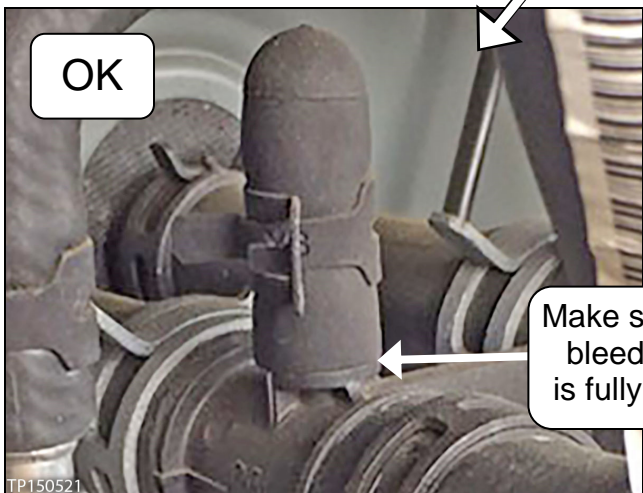

Figure 3; NV Passenger only
- Make sure the bleeder cap is fully seated against the heater hose junction (see Figures 3 and 4 on the next page).